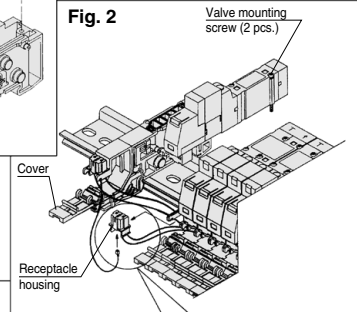
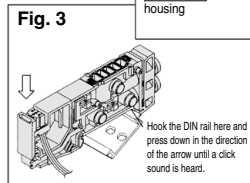

Fig. 2
Fig. 3
- 4** Loosen the valve mounting screw on the U side, remove the valve, and take out the receptacle housing. (Refer to Fig. 2.)
- 5** Insert the common wire (red) of the manifold block assembly to be added into the pin insertion section (N mark) of the receptacle housing that was taken out in (4), mount it on the manifold block, and mount the removed valve.
- 6** As shown in Fig. 3, mount the additional manifold block assembly on the DIN rail on the U side. Refer to the circuit diagram, and insert the lead wire (black) as shown in Fig. 4.